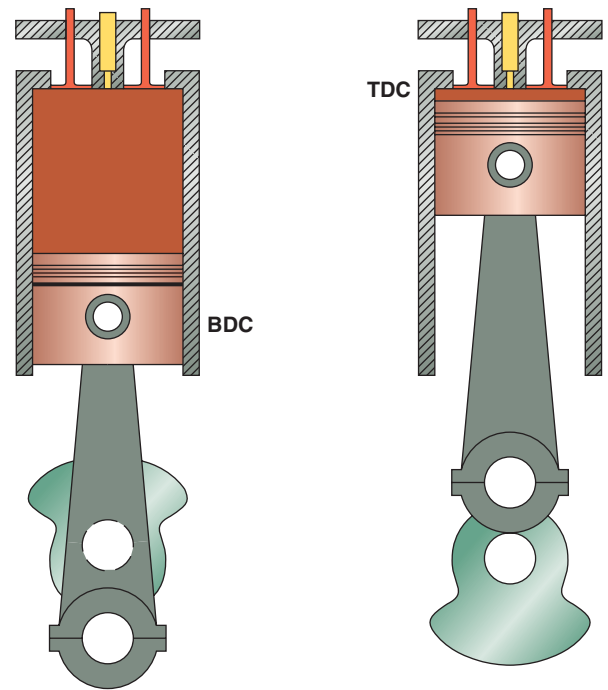

Figure 5-9 The TDC as well as BDC of a piston. Knowing the volume of the cylinder in these positions allows us to determine the compression ratio.
You have learned that the displacement of an engine is the volume of space through which a piston moves as it travels up and down in a cylinder. When a piston is at BDC, the **cylinder volume (CV)** is at its largest. When the piston is at TDC, the cylinder volume is at its smallest. When the cylinder is at its smallest volume position, it's said to be at its **combustion chamber volume (CCV)**. The ratio of the largest cylinder volume to the smallest cylinder volume is called the **compression ratio** (Figure 5-9). A ratio is simply a comparison between two values. The compression ratio can be calculated by using the following formula: